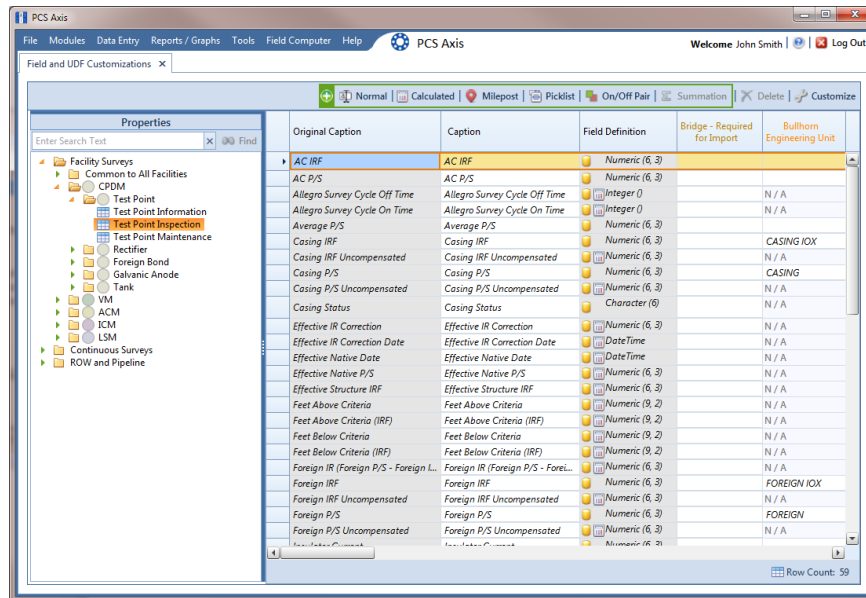

Figure 3-48. Field and UDF Customizations
- 1 Click **Tools > Field and UDF Customizations** to open the *Field and UDF Customizations* window (Figure 3-48).
- 3 Select an item in the *Properties* panel that includes the data entry grid you want to add a *Dynamic Picklist* UDF. For example, double-click **Facility Surveys > CPDM > Test Point > Test Point Inspection** to display a grid with fields and property settings related to the *Test Point Inspection* data entry grid (Figure 3-48).
- 1 If the *Field and UDF Customizations* window is not open, click **Tools > Field and UDF Customizations** to open the window (Figure 3-48, page 97).